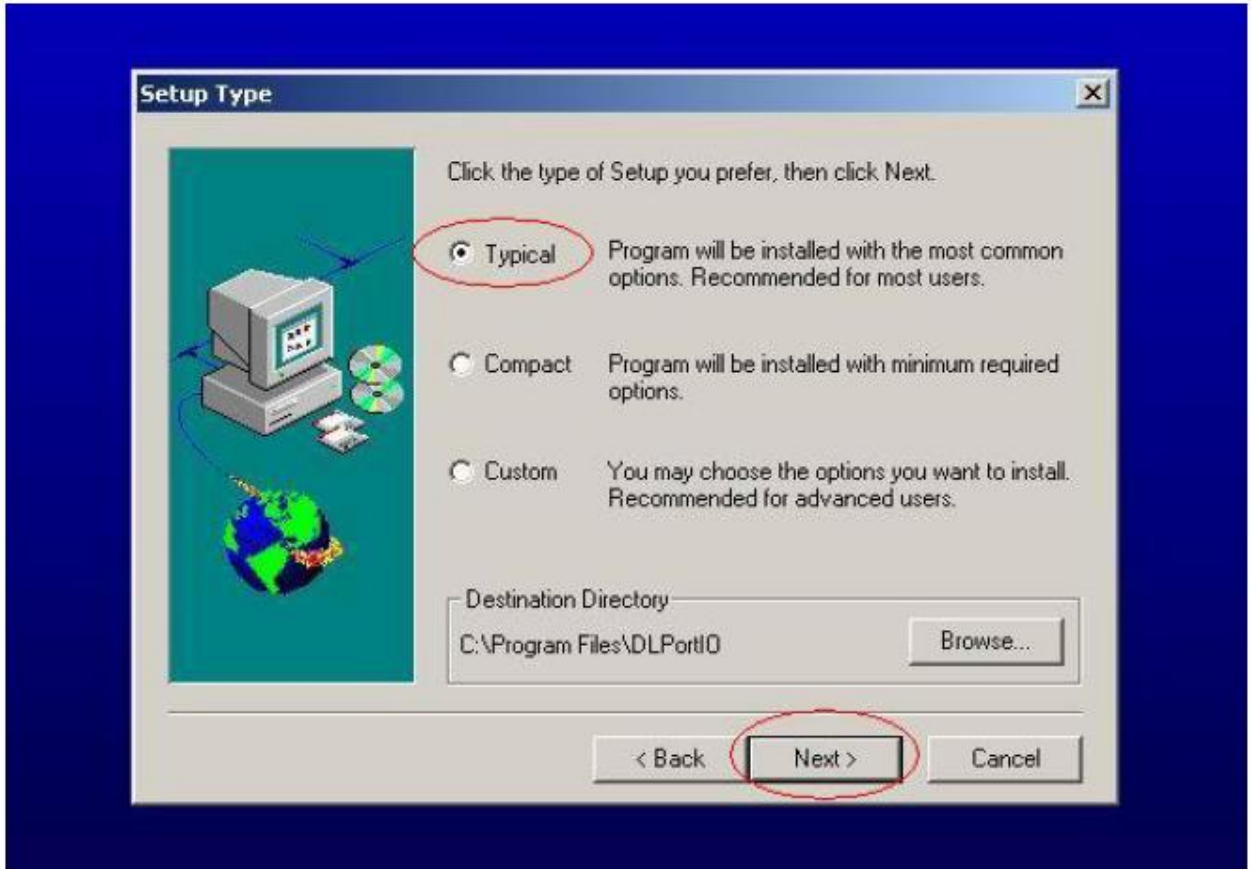

Fig. 0.3
0.3 Choose “Typical “ then press “Next “, see Fig. 0.3